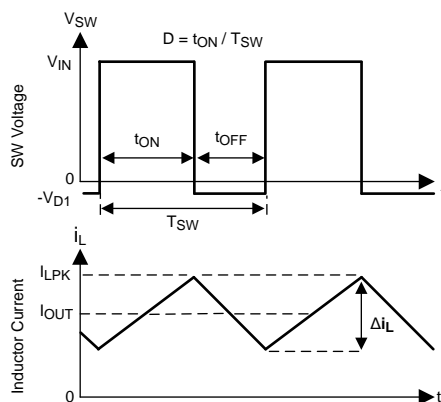

Figure 33. SW Node and Inductor Current Waveforms in Continuous Conduction Mode (CCM)
The following operating description of the LM46000-Q1 will refer to the Functional Block Diagram and to the waveforms in Figure 33. The LM46000-Q1 is a step-down buck regulator with both high-side (HS) switch and low-side (LS) switch (synchronous rectifier) integrated. The LM46000-Q1 supplies a regulated output voltage by turning on the HS and LS NMOS switches with controlled ON-time. During the HS switch ON time, the SW pin voltage V_{SW} swings up to approximately V_{IN} , and the inductor current I_L increases with a linear slope $(V_{IN} - V_{OUT}) / L$. When the HS switch is turned off by the control logic, the LS switch is turned on after a anti-shoot-through dead time. Inductor current discharges through the LS switch with a slope of $-V_{OUT} / L$. The control parameter of Buck converters are defined as Duty Cycle $D = t_{ON} / T_{SW}$, where t_{ON} is the HS switch ON time and T_{SW} is the switching period. The regulator control loop maintains a constant output voltage by adjusting the duty cycle D . In an ideal buck converter, where losses are ignored, D is proportional to the output voltage and inversely proportional to the input voltage: $D = V_{OUT} / V_{IN}$.